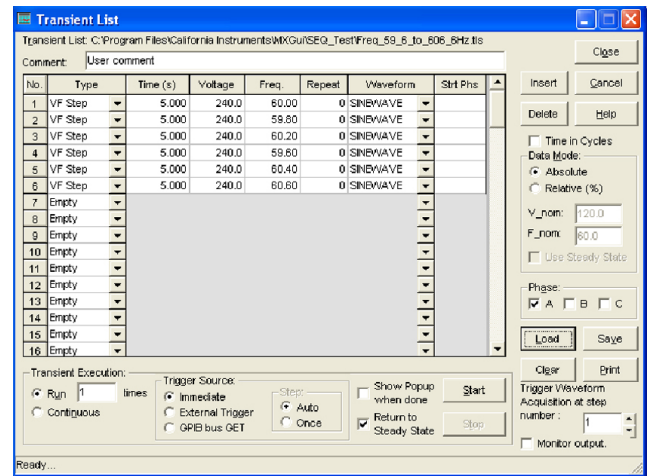

**Figure 10: Current flow as the voltage steps in the Transient List are executed**
9) to produce the overall system behavior shown in Figure 10. The power source is programmed to step down from 240V to 195V in 5V increments, commencing around 20 seconds after the inverter has synchronized and come on line. The horizontal axis in Figure 10 is calibrated in increments of 0.2 seconds, such that 500 windows over the 100-second duration of the test. As shown by the vertical axis, the load (red) increases from 5A to 8A about 25 seconds after data acquisition begins. Within a few seconds, the inverter (blue) comes on-line and starts to supply current. As the source voltage (green) steps lower, the inverter increases its current output to almost 15A. Once the voltage falls below the lower limit of 211V, the inverter goes offline and the source smoothly picks up the load current.